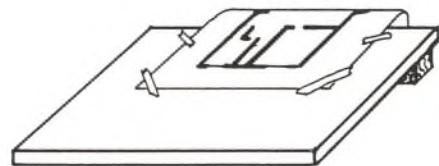

Fig. 24.2 Set up the drawing.
2. Place it on your drawing surface so that the exterior wall line of the floor plan, which is facing you, is about halfway down on your drawing surface; then fasten it securely. The back half of the floor-plan drawing will probably hang over the back of your drawing surface. (See Fig. 24.2.)
1. Place the floor plan on your working surface, as in Fig. 24.2, with the side to be drawn facing you.